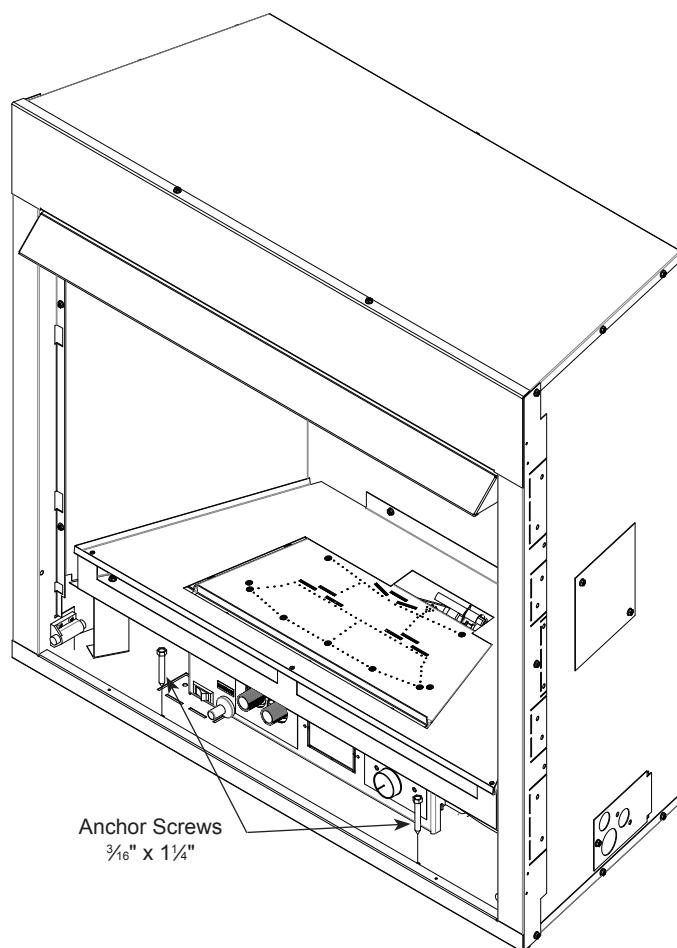

Figure 10. Secure Fireplace to Floor or Hearth
2. Secure the firebox with two anchoring screws ($\frac{3}{16}$ " x 1¼" length) supplied with the fireplace system. Figure 10